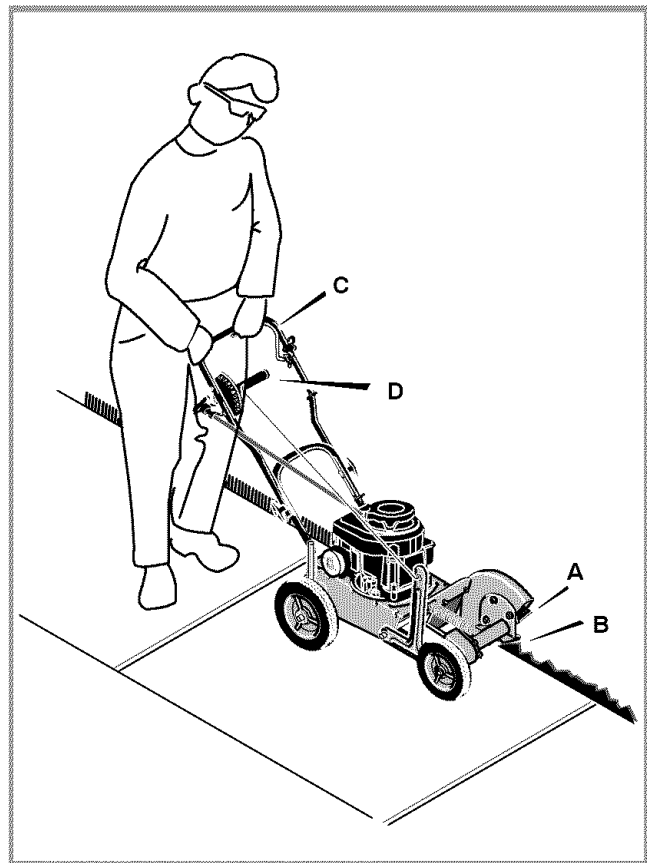

Figure 12: Operation Of Edger
- 1 Before you start the engine, move the depth control lever (D) forward until the blade (A) will not contact the ground.
- 2 When edging along a concrete driveway or sidewalk, set the wheels on the concrete and position the blade along the left side of the driveway. To keep the blade from hitting the driveway, make sure to keep the blade guide (B) aligned with the side of the driveway. See Figure 12.
- 5 Stand behind the edger and firmly hold the handle (D). See Figure 12. As the blade begins to cut, slowly move forward.